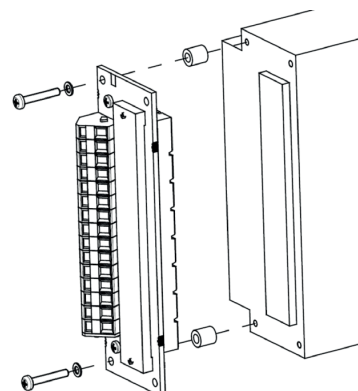

Fig. 34
- Cage clamp adapter HZZ00144-G; see fig. 34